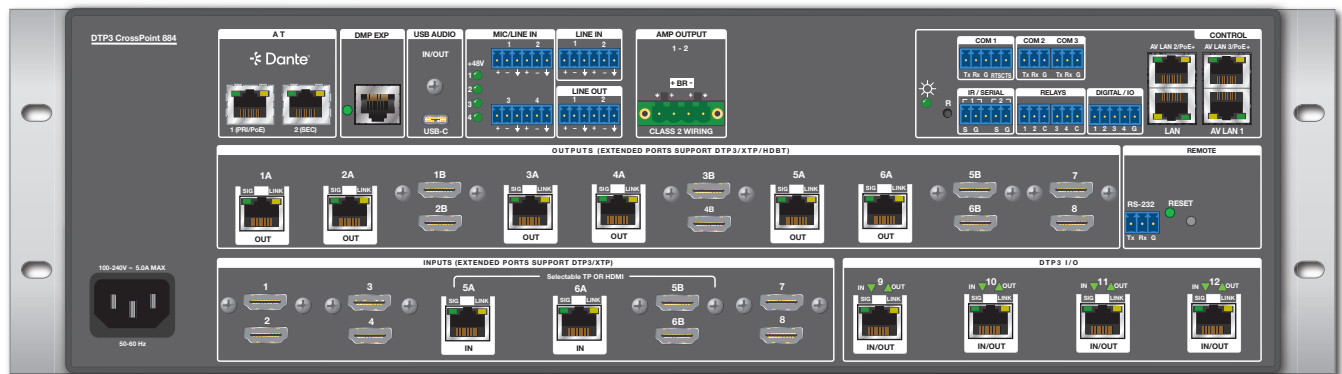
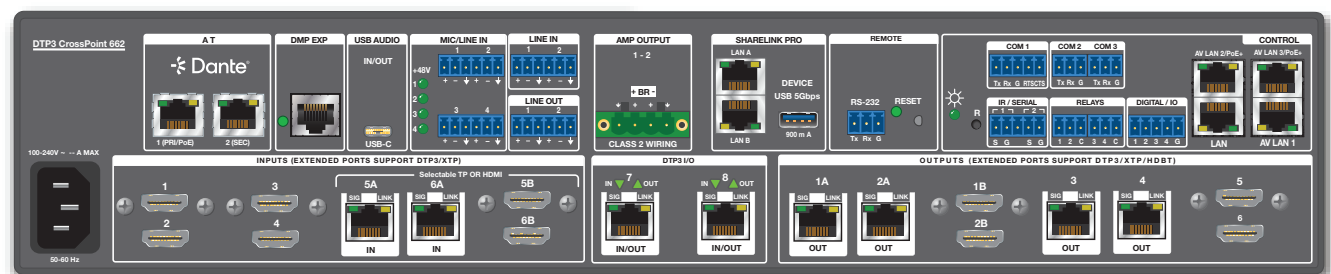

Figure 3. DTP3 CrossPoint 884 IPCP A Matrix Switcher Rear Panel
Figure 4. DTP3 CrossPoint 662 IPCP A SL Matrix Switcher Rear Panel
Figure 3 on page 15 shows the rear panel of a DTP3 CrossPoint 884 IPCP A model, featuring an IPCP control card and an Amp Output. **Figure 4** on page 15 shows the rear panel of a DTP3 CrossPoint 662 IPCP A SL, featuring an IPCP control card, a ShareLink Pro module, and an Amp Output. The DTP3 CrossPoint base models have most of the same ports and features with a single Ethernet port, without the IPCP control card and the Amp Output.
- Figure 3 shows the features of IPCP A models. Actual models have either a remote LAN port or an IPCP Pro 360MQ xi control card, but not both.
- Figure 4 shows the features of IPCP A SL models. Actual models have either a remote LAN port or an IPCP Pro 360MQ xi control card, but not both.
- The model with an amplified output has a 4-pole stereo port shown in figure 4.